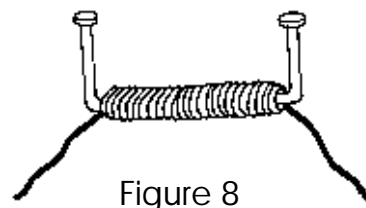

Figure 8
- Wind about 400 turns of wire around the center. Leave 4 inches of spare wire at start and finish as shown in *figure 8*. Remember to wind in the same direction.